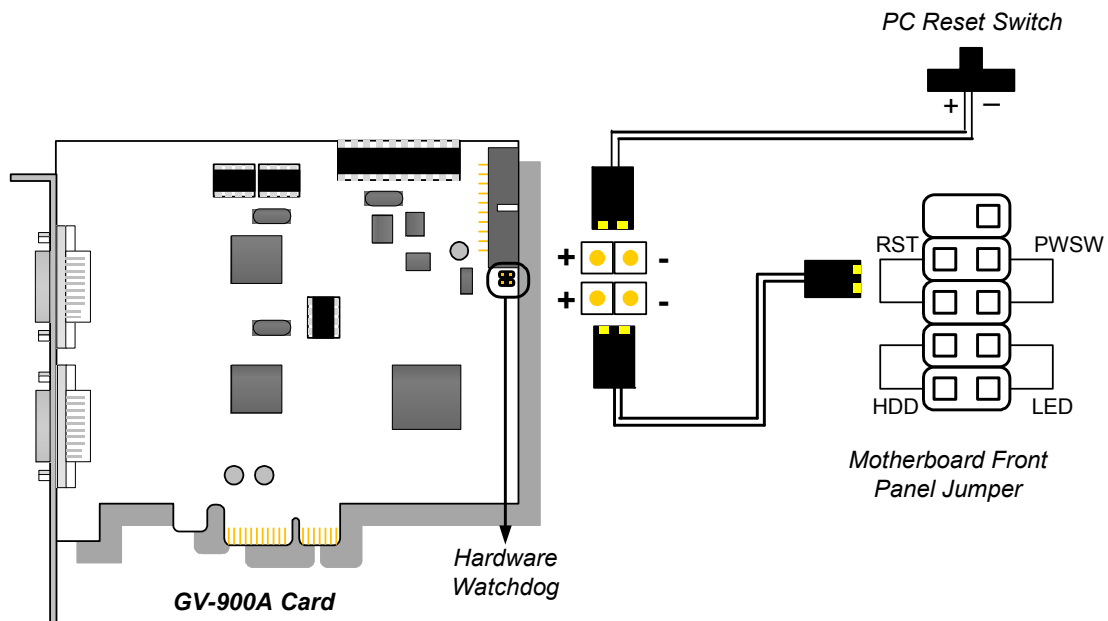

Figure 1-40
- Connect the supplied Hardware Watchdog Jump Wire (Figure 1-40).
- **Hardware Watchdog Connection:** Connect the supplied Hardware Watchdog Jump Wire to the Master Card only (Figure 1-40).